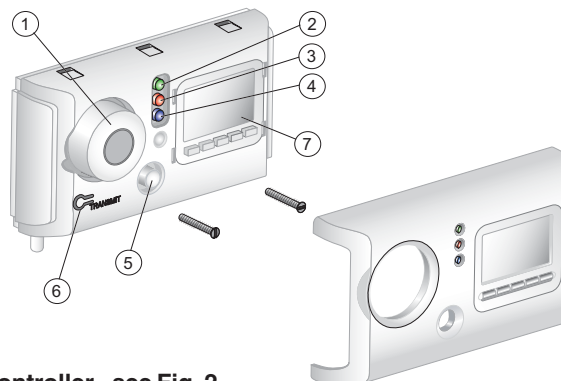

Fig. 2
- Remove screw 'x' from the underside of the Controller unit - see Fig. 2.
- The front facia is held in place by clips at the top. It must be removed by lifting the top of the facia upwards and then outwards - see Fig. 2.
- Secure the Controller to the backing box using the screws provided (located on rear moulding) - see Fig. 2.
Controller - see Fig. 2
- Ensure both the Controller and Receiver(s) are powered up. To activate the Controller press the standby button see '1' in **Fig. 2**. When activated, the 'ON' (Green) light will illuminate.